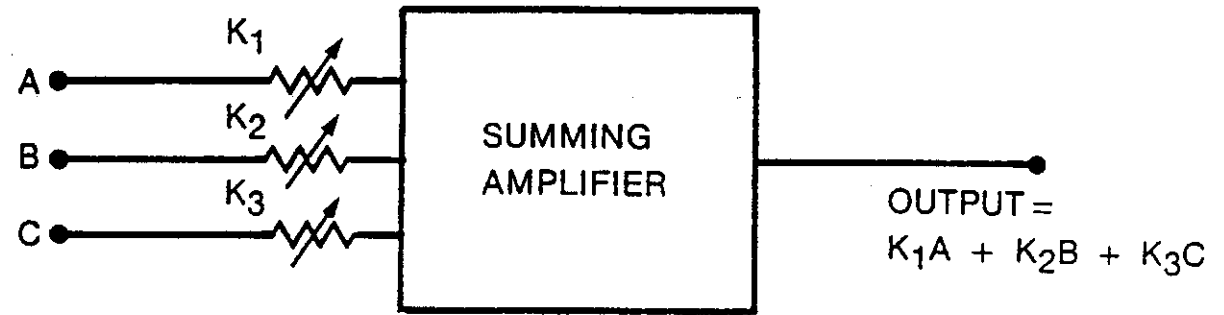

Figure 15: Block Diagram of a Summing Amplifier
- A summing amplifier (or summer) can be used for this purpose. A block diagram of a summing amplifier is shown in Figure 15.